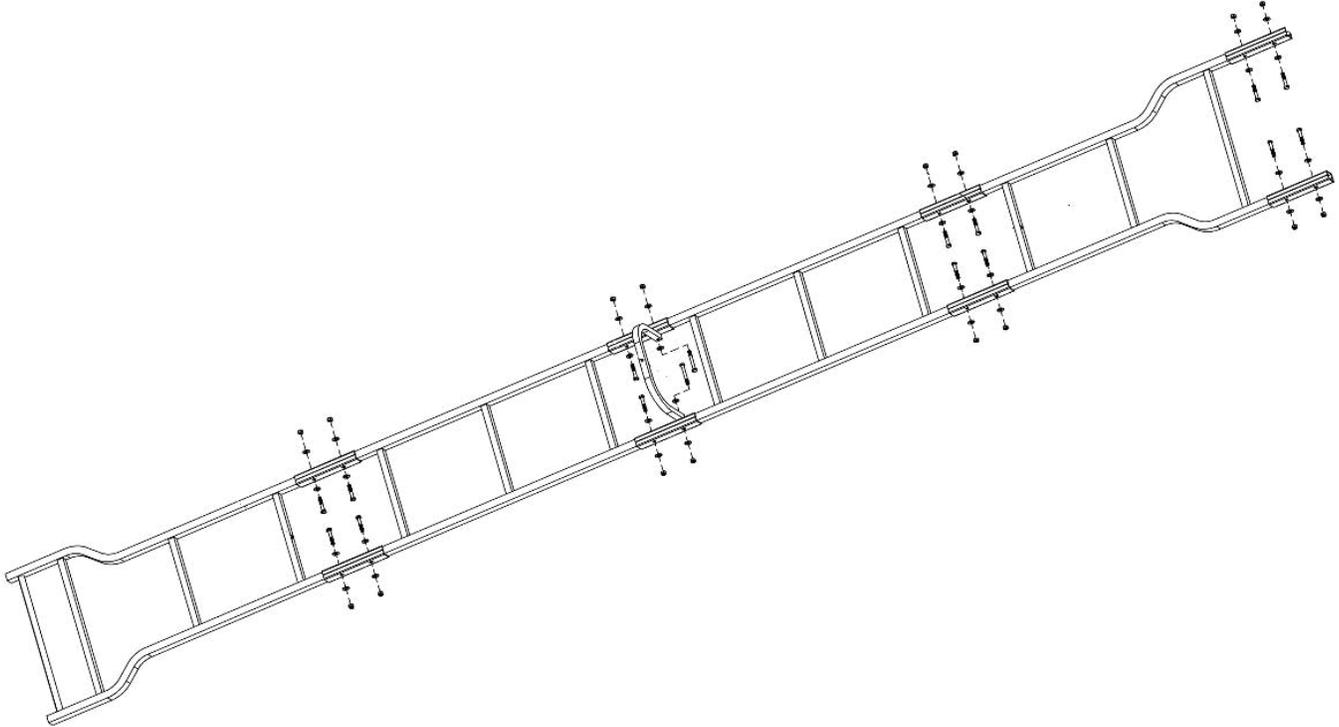

Figure 34
STEP 1: Assemble the ladder by attaching the bottom section and one (1) middle section together using four (4) ladder connectors and four (4) 5/16" x 2" bolts, eight (8) washers and four (4) nuts as shown in Figure 34. Place one (1) washer under the head of the bolts and one (1) washer under the nuts. After all four (4) of the bolts are inserted you can tighten the four (4) nuts.
STEP 2: Now attach the second middle ladder section to the top of the other section. Only install the bottom two bolts at this time as the top bolts are longer to attach the bridge support U brace, use two (2) 5/16" x 2-3/4" bolts. Place one (1) washer under the head of all the bolts and one (1) washer under the nuts as shown in Figure 34.
STEP 3: Now tighten all the nuts. Next attach the top ladder section using four (4) ladder connectors, four (4) 5/16" x 2" bolts, eight (8) washers and four (4) nuts as shown in Figure 34. Now tighten all the nuts. Next, attach the top four (4) ladder connectors to the top of the ladder as they will be used to connect the ladder to the stand. Leave these bolts loose until time to attach the ladder to the stand.